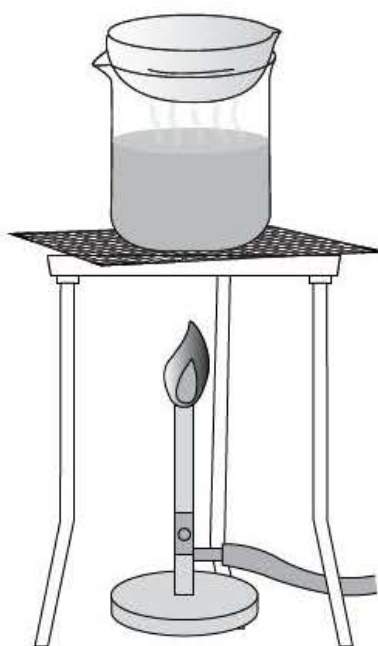

Figure 3
- 8 Place the evaporating basin on top of this beaker as shown in Figure 3, light the Bunsen burner and evaporate the filtrate slowly until there is only a small amount of solution left.